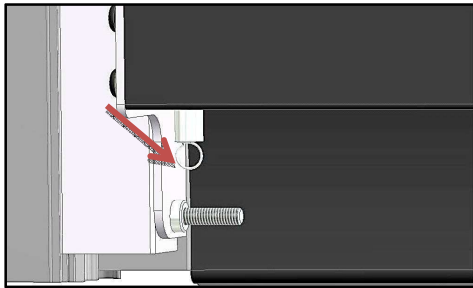

Fig. 1
- Remove the spring from the screw thread (Fig. 1)